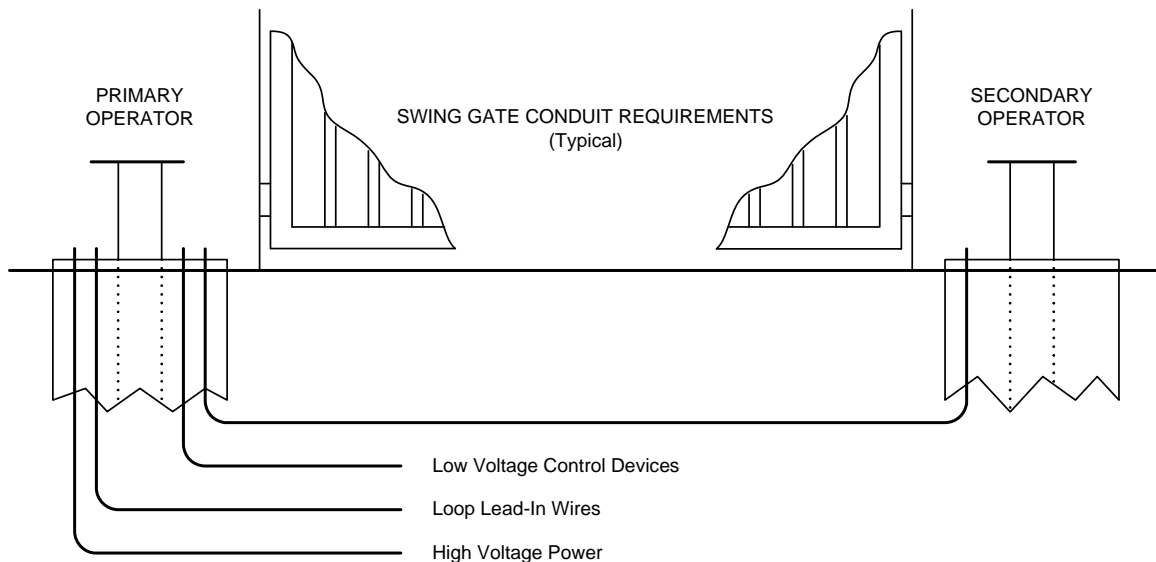

Figure 20
- The conduit requirements shown in figure 20 are for a typical swing gate operator installation (the secondary operator is shown for those applications where a secondary operator may be used). The conduit requirements for your application may vary from this depending on your specific needs.